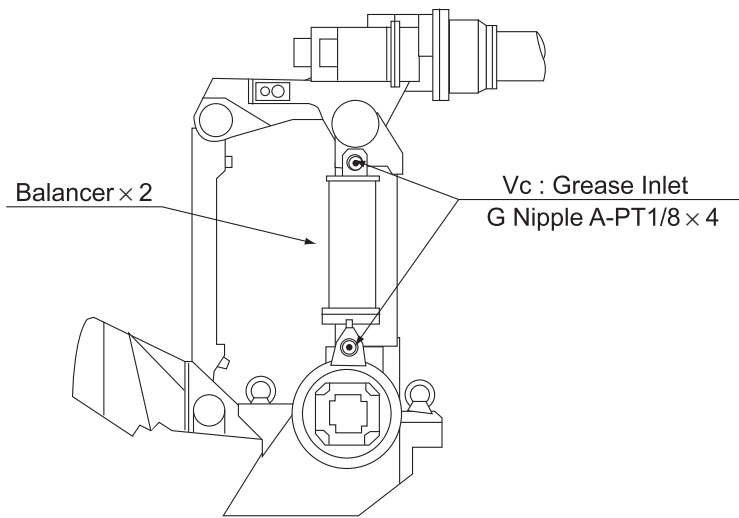

Fig. 31 Balancer Connection Part
1. Remove the plug for air flow. (4ps, refer to " Fig. 31 Balancer Connection Part ")